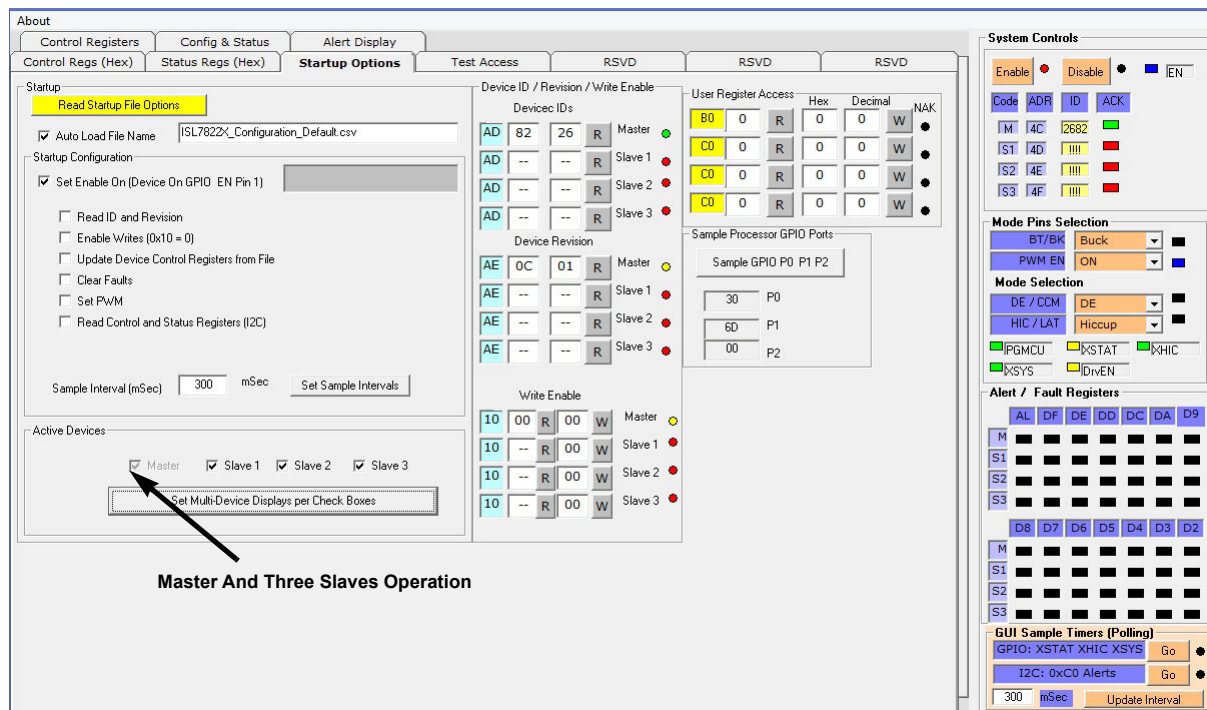
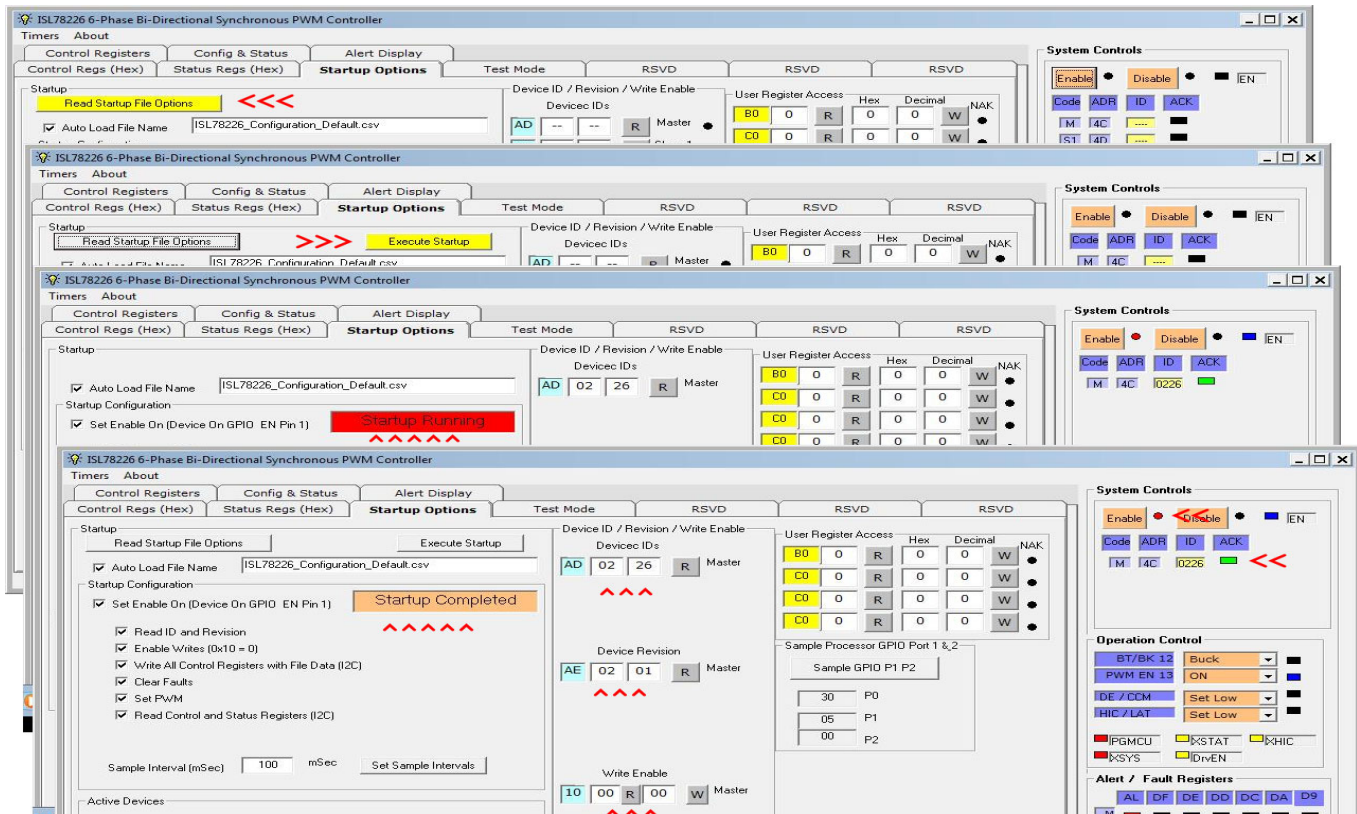

Figure 26. Master and Three Slave Selection
Figure 31. Automatic Startup Using the Startup Tab
The Quick Access Control Panel in Figure 26 shows the status for multi-chip operation with one master and three slaves.
The **Startup Options** tab (Figure 26 on page 22) enables automated startup or lets you manually perform specific steps. The Automatic feature goes through the four steps shown in Figure 31.
- (4) After loading the file and before executing the automatic startup, you can change the startup conditions by checking or unchecking the boxes. When you are ready for startup, click **Execute Startup**.
- (5) The software executes the enabled functions specified in the **startup.csv** file. The status window turns red during processing and indicates when the process is complete. As shown in Figure 31 on page 29, various fields are updated when completed.